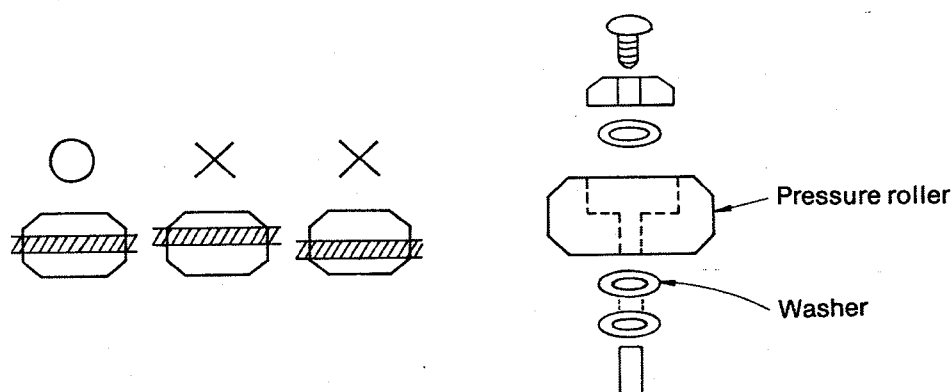

Fig. 9
- (1) Thread tape; place unit in playback mode.
- (2) Check whether or not tape movement is at center of pressure rollers.
- (3) If tape movement is too high or too low, adjust the number of washers shown in figure 9.